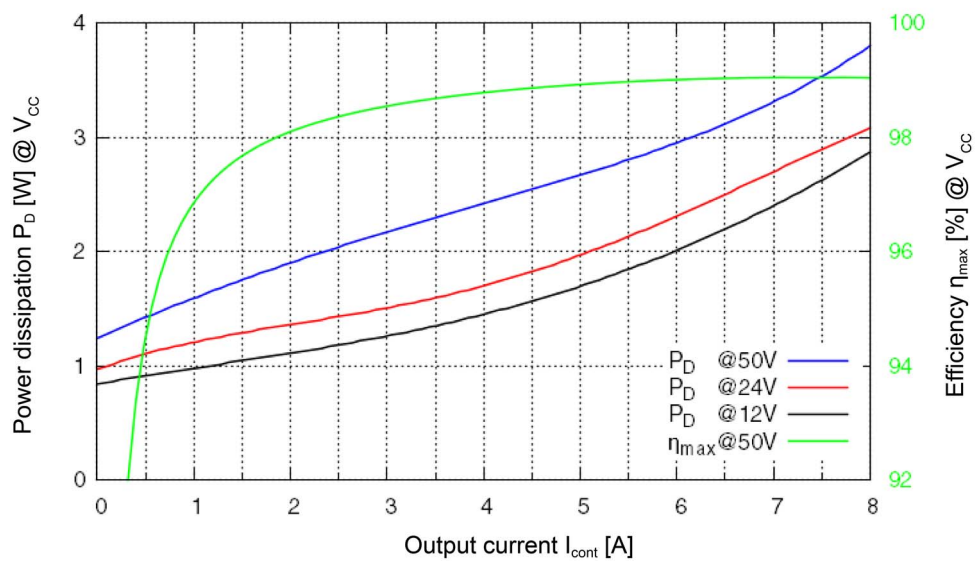

Figure 2-1 Power Dissipation and Efficiency
Extended range *1)	Module 50/8: +45...+85 °C Module 50/8 HE: +65...+92 °C Derating → Figure 2-1
**2) →Figure 2-1**